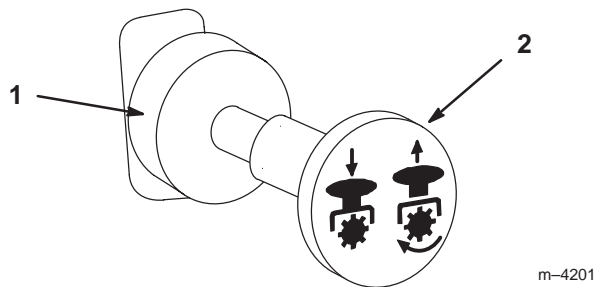

Figure 15
3. Pull out on the power take off (PTO) switch to engage (Fig. 15).
To disengage, push the PTO switch to the off position (Fig. 15).